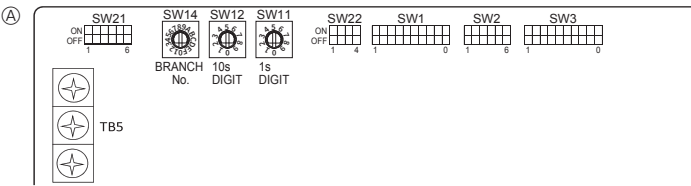

Fig. 5-10
- ③ Wireless remote controller (When installing wireless signal receiver)
- ① Terminal block for indoor transmission cable
② Terminal block for outdoor transmission cable (M1(A), M2(B), (S))
③ Remote controller
④ wireless signal receiver
⑤ wireless remote controller
5.6. Setting addresses (Fig. 5-10)
5.7. Switch setting for high ceiling or at the time of changing the number of air outlets (Fig. 5-10)
5.8. Sensing room temperature with the built-in sensor in a remote controller (Fig. 5-10)